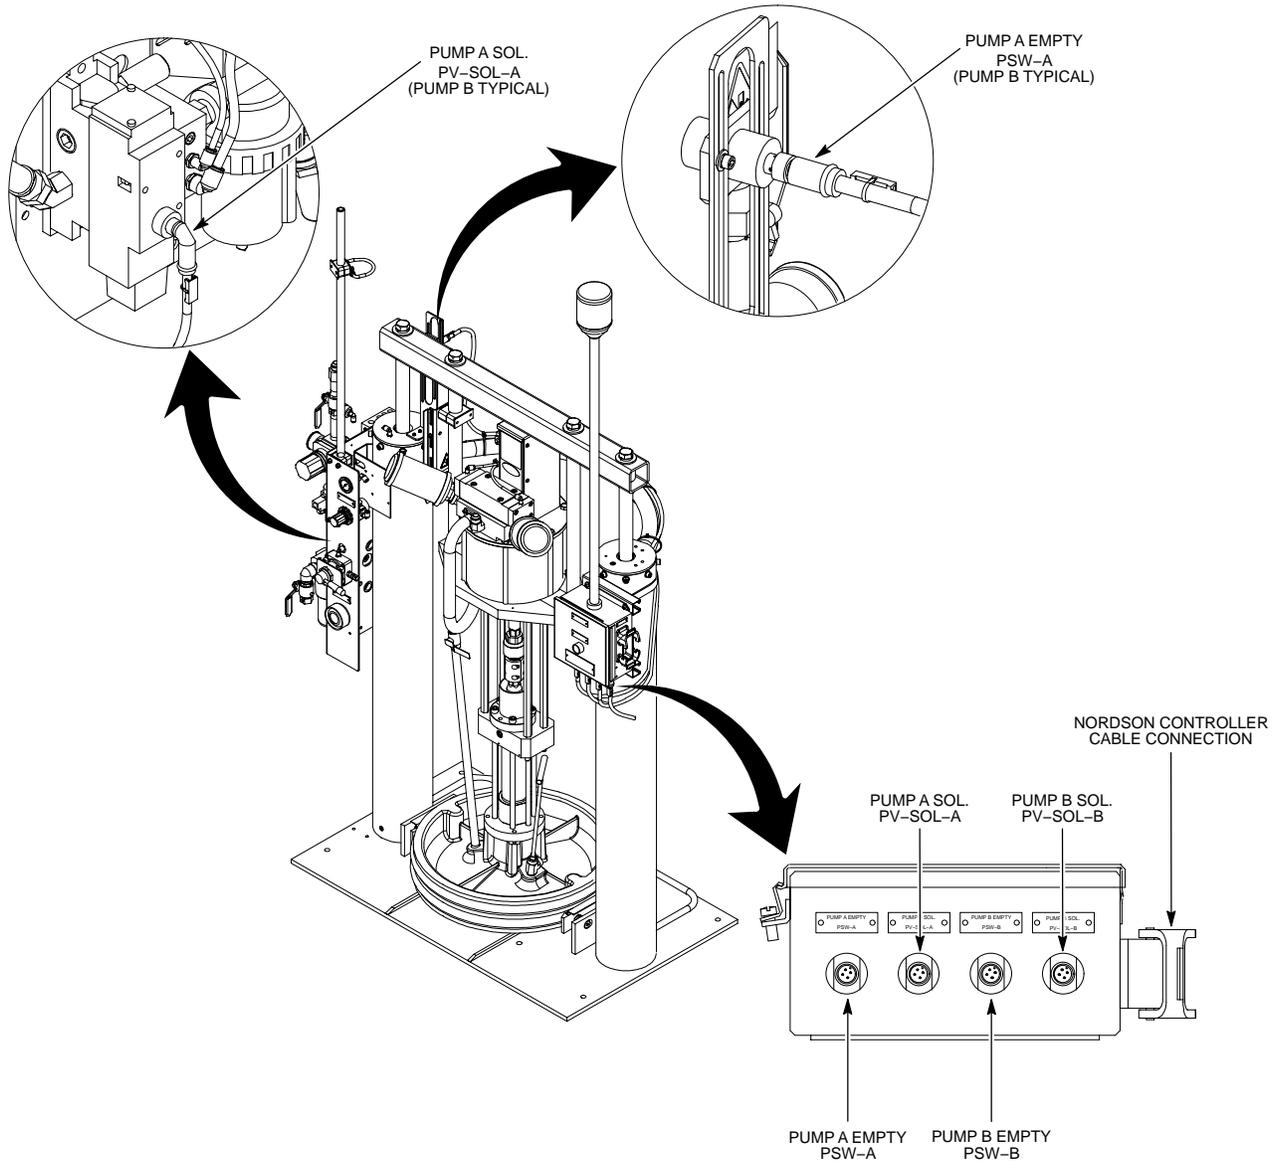

Figure 3 Cable Connections
3. See Figure 3. Connect the Pump-A, Pump-B, and controller cables as shown.